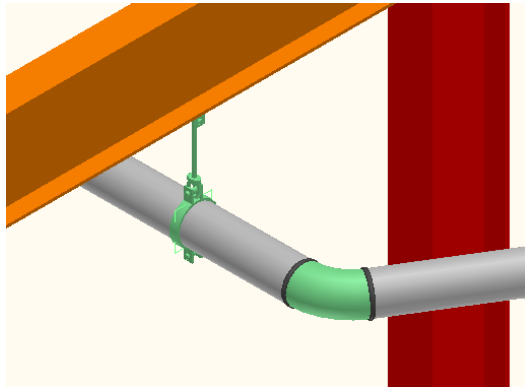

Figure 10: Designed Support with All Parts Placed Manually
**Exercise Objective:** In this exercise you will be placing a designed support on pipeline **2001-P** and then manually select and position the individual parts of the support. The resulting support will resemble Figure 10 in standard Isometric view **Looking North-East**.